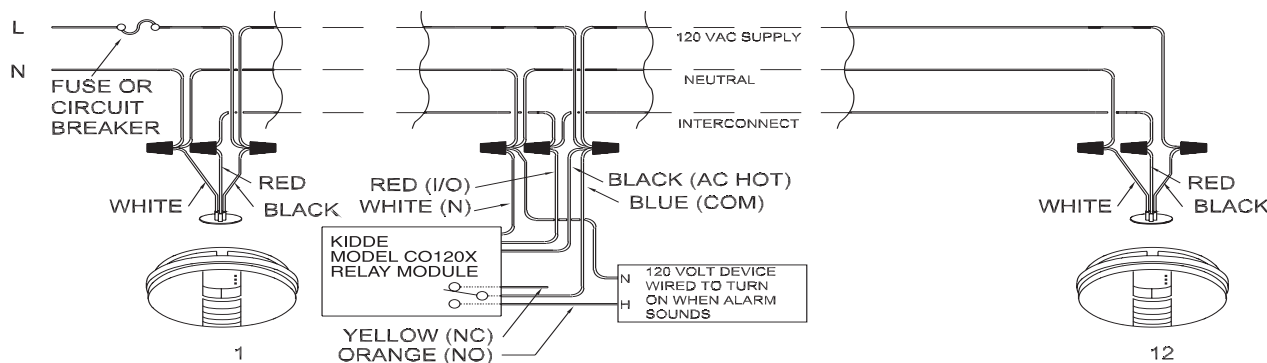

FIGURE 1
Turn off the main power to the circuit. If you are also installing smoke alarms, heat alarms, or CO alarms, wire them according to their specific owner's manual. Refer to the typical installation diagram (Figure 1) included in this manual for your specific application.
FIGURE 1 shows a typical installation of a relay module wired to switch on 120 volt device when the alarms sound. In this configuration the common switch contact (blue wire) is connected to the 120 volt supply. When the alarms sound the module detects the signal on the interconnect line (red wire) and activates the relay. As a result of this action, the orange wire (NO) supplies 120 volts to the device.